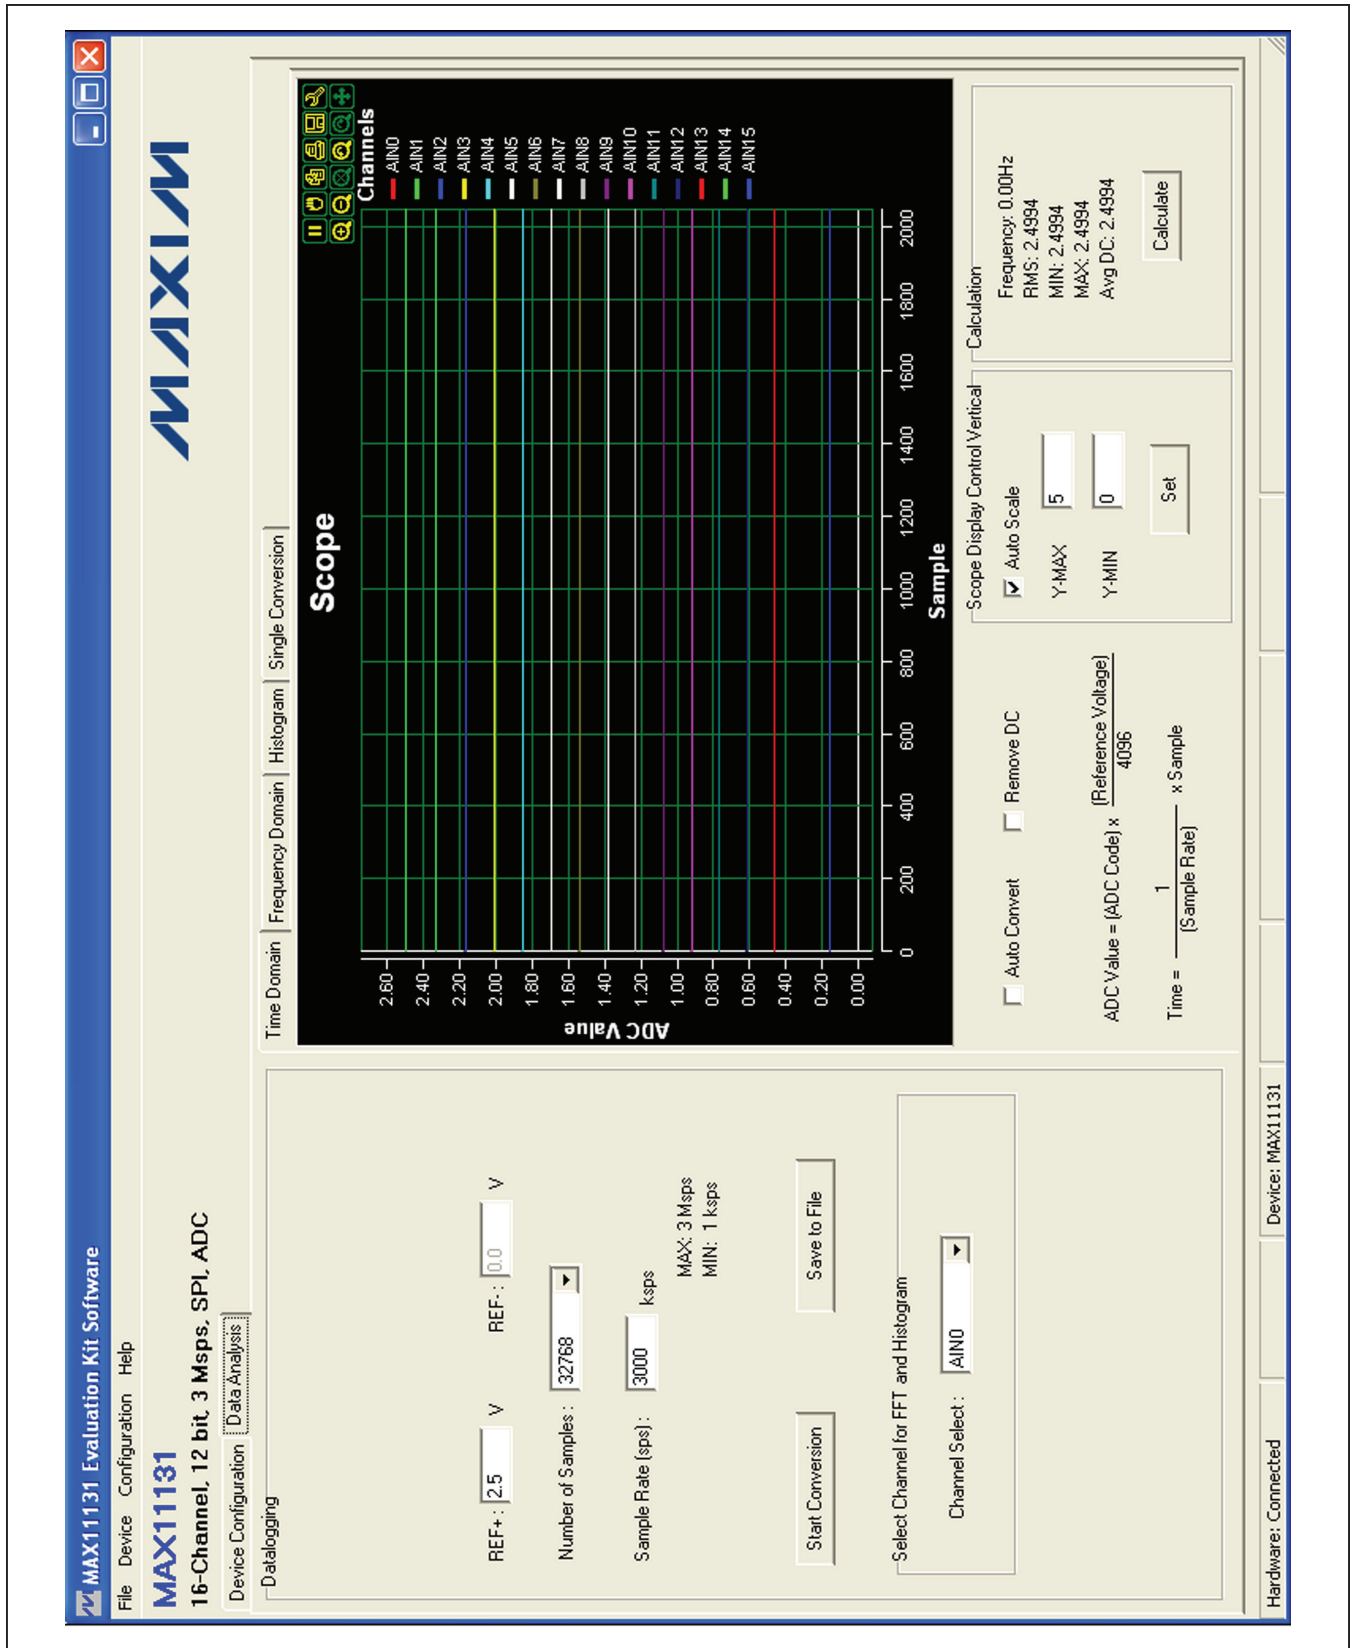

Figure 1. Quick Start Time Domain Scope Shot
- 12) Observe the scope image (as shown in Figure 1) and verify the data sampled is valid.